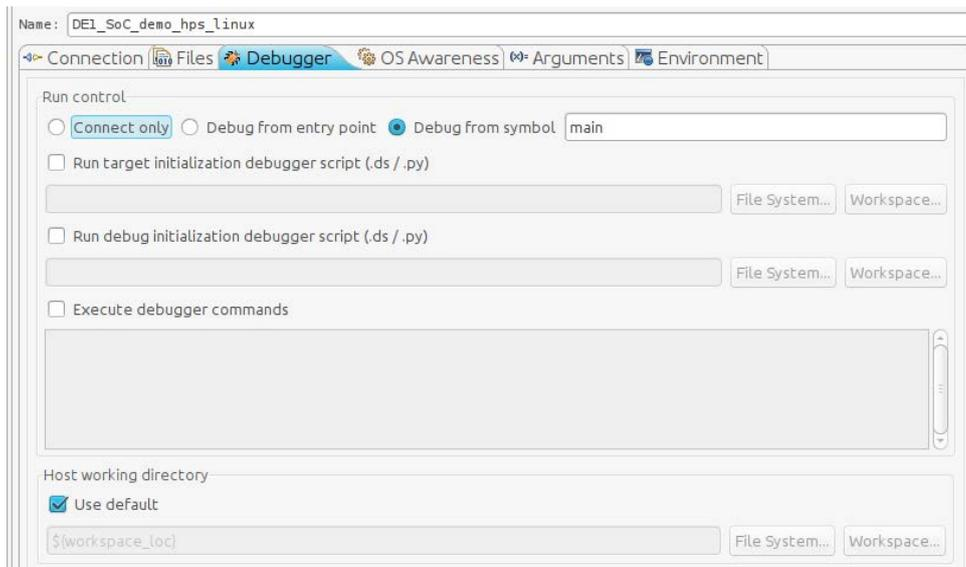

Figure 13-16. Debug Configuration “Debugger” Tab
84. Under the "Debugger" tab, make sure that "Debug from symbol" is selected and that "main" is the name of the symbol, as shown in Figure 13-16.